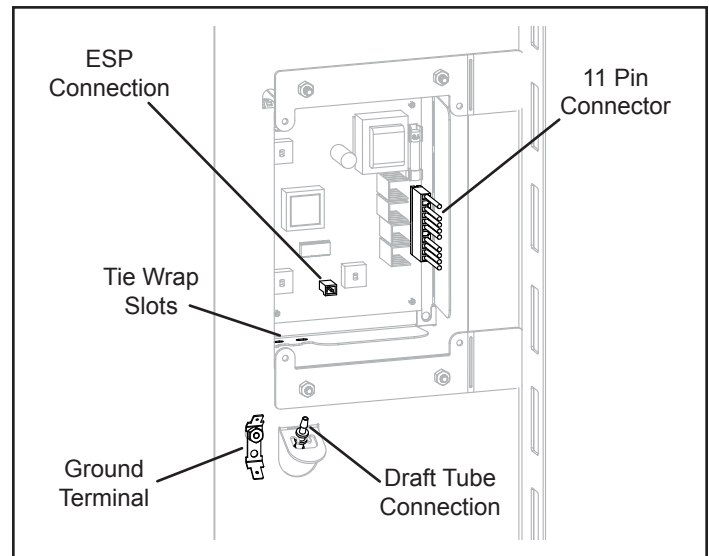

Figure 5.5 - Connect wiring and Draft Hose.
- Holding the control board outside the opening in the surround panel, attach the 11 pin connector plug, ESP wire, ground wire and silicon draft tube, reference Figure 5.5.
- Tie wrap wiring to circuit board assembly, reference Figure 5.5 for hole location.